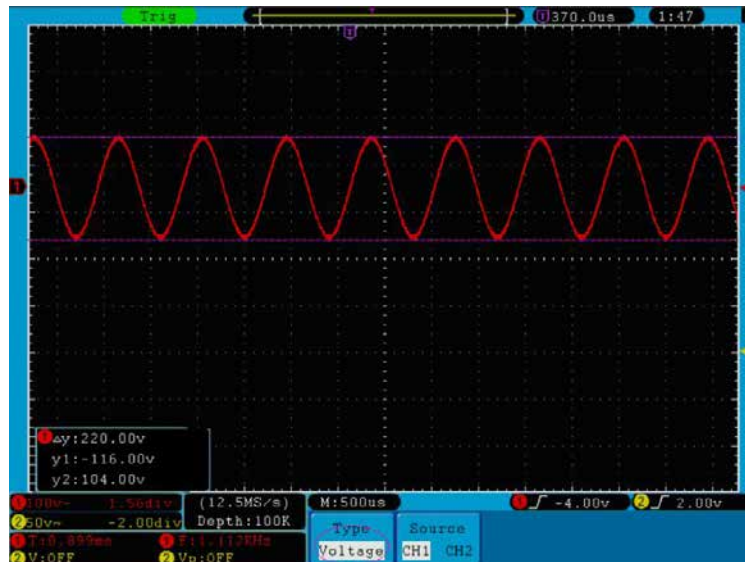

Fig. 71 Waveform of Voltage Cursor Measurement
4. According to the measured waveform, adjust the positions of Cursor1 and Cursor2 by turning the **VERTICAL POSITION** knob of CH1 and CH2. Cursor increment window at the left bottom of waveform shows absolute value of D-value of cursor 1 and cursor 2 and the present position of the two cursors. (see **Fig. 71**).